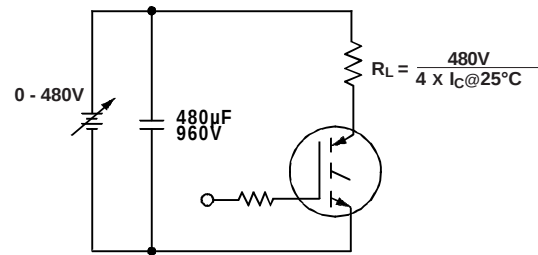

Fig. 13b - Pulsed Collector Current Test Circuit
① Repetitive rating; $V_{GE} = 20V$, pulse width limited by max. junction temperature. (See fig. 13b)
② $V_{CC} = 80\%(V_{CES})$, $V_{GE} = 20V$, $L = TBD \mu H$,